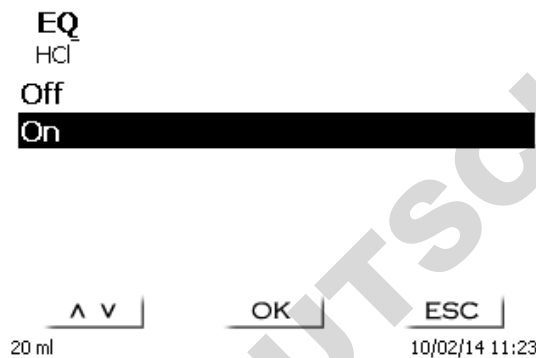

Fig. 103
Automatic detection of the equivalence point (EQ) can be switched on and off for linear or dynamic titration (Fig. 103).